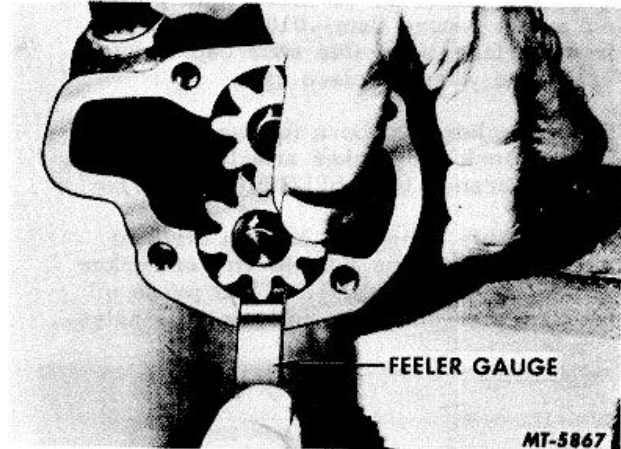

Fig. 144 Measuring Pump Gear-to-Body Clearance
3. While holding gears in this manner, measure clearance between outside diameter of gear and bore of housing (Figure 144). Clearance